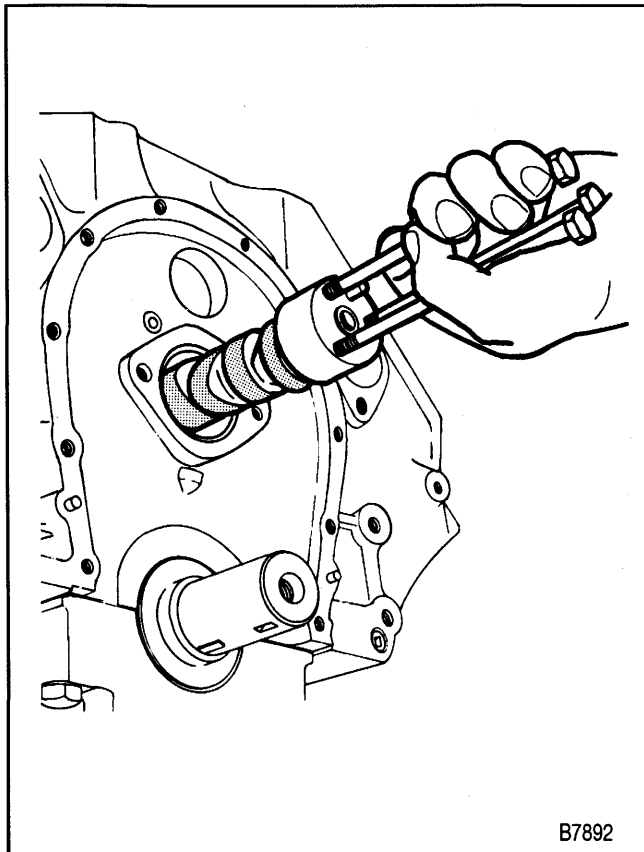

Figure 30—Replacing the Camshaft
- A. Install two or three 5/16-18 bolts 100-125 mm (4-5 inches) long into the camshaft threaded holes. Use these bolts to handle the camshaft (figure 30).
- 2. Camshaft to the engine (figure 30). Handle the camshaft carefully to prevent damage to the camshaft bearings.